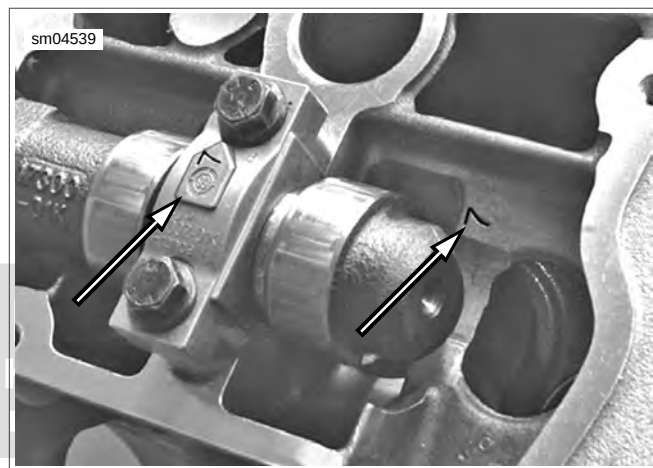

Figure 3-47. Cam Journal Cap Numbering and Directional Arrow (exhaust cam shown)
11. See Figure 3-47. Cam journal caps are numbered. Install cam journal caps with corresponding number on head, arrow pointing to center of head.